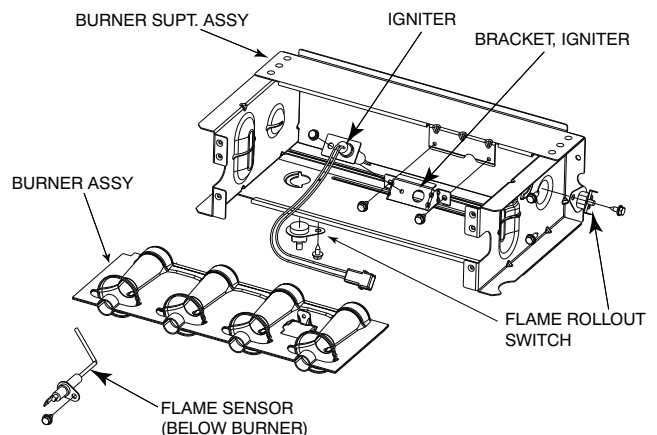

Fig. 64 - Burner Assembly
Refer to Fig. 64.
- a. Using a 1/4-in. driver, remove the two screws securing the igniter mounting bracket to the burner assembly See Fig. 64.
6. To replace igniter and bracket assembly, reverse items 5a through 5d.
7. Reconnect igniter harness to the igniter, dressing the igniter wires to ensure there is no tension on the igniter itself. See Fig. 64.